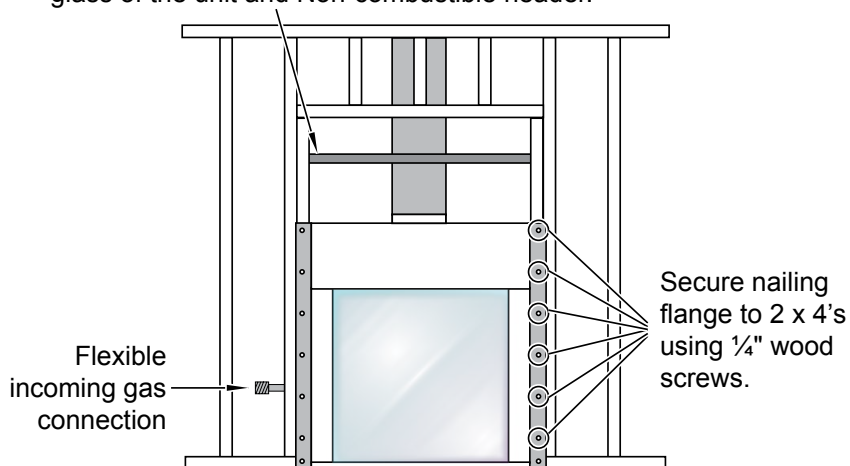
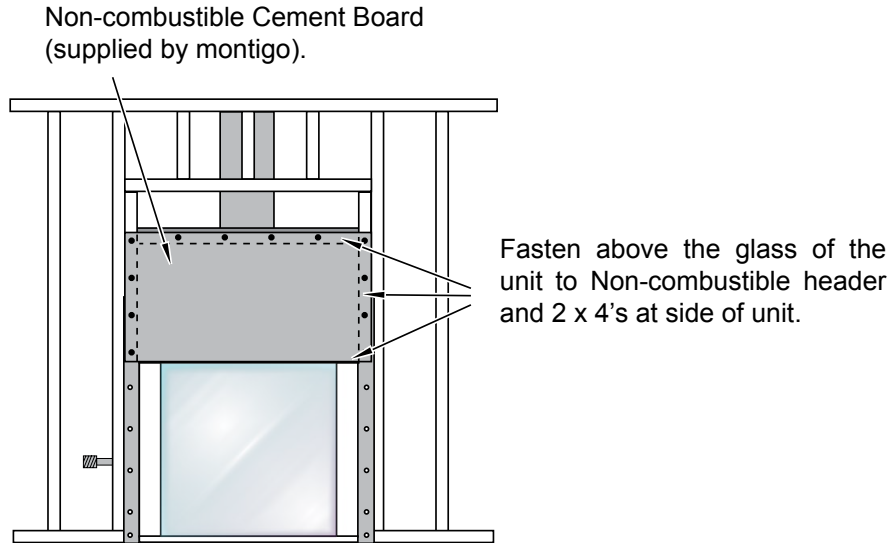

Figure 2a. Fireplace installation, (Inlet Gas & Power Vent) .
Figure 3. Non-combustible Cement Board the Fireplace, (supplied by Montigo).
Step 1. As shown in Figure 3; Use Non combustible Cement board, at sides of unit (see figure 2a on page 6) using sheet metal screws.